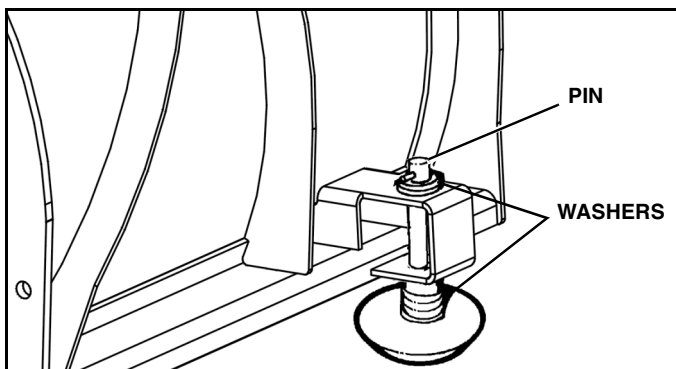
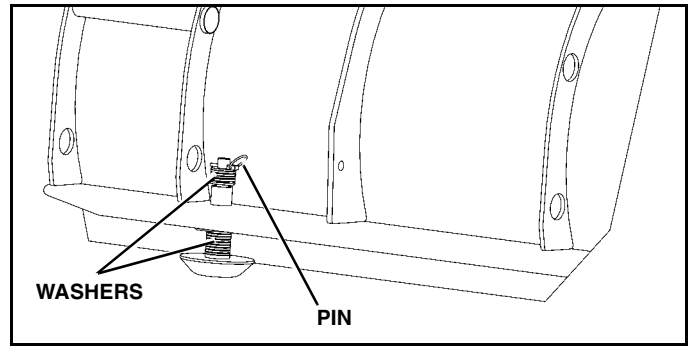

Figure 2-5 (29/32 Series)
Figure 2-6 (29 HD Series)
5. Adjust shoe assemblies by removing shoe mounting lynch pin and adding or subtracting washers on the top or bottom of the shoe-mounting bracket. (See Figure 2-5 or Figure 2-6).